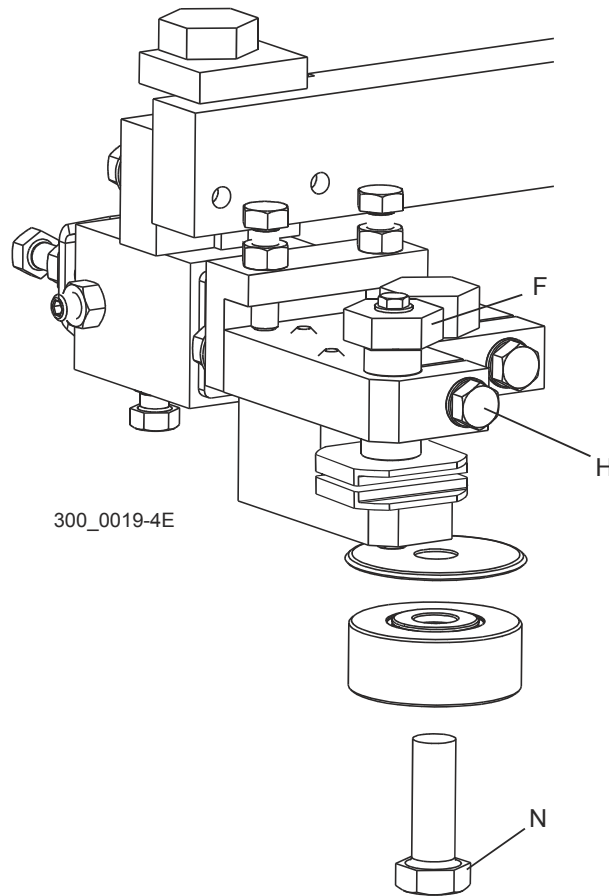

FIG. 7-18
See Figure 7-18. At both blade guide assemblies, loosen clamp bolt (H) and turn bolt (F) counterclockwise to raise the top guide block all the way up. Remove bolt (N) and remove the guide roller and roller cover from each blade guide assembly.